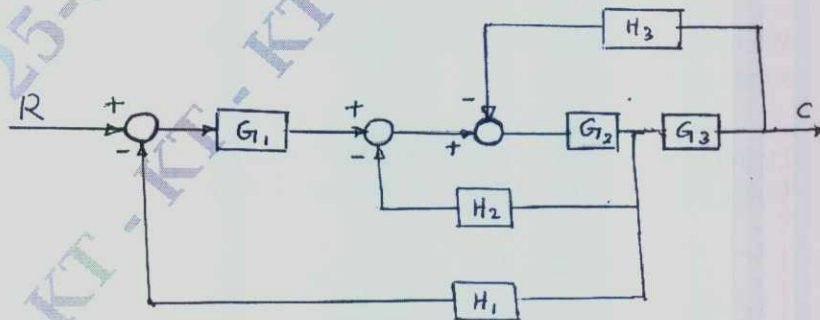

Fig. Q4 (a)
- 4 a. Obtain the control ratio C/R for the block diagram shown in Fig. Q4 (a). (08 Marks)